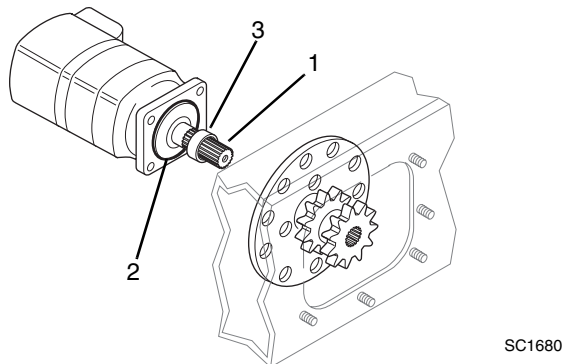

Figure 5-57 Drive Motor Installation
2. Coat the spline shaft (Fig. 5-57, 1) of the new travel motor with molybdenum disulfide anti-seize compound.
3. Follow manufacturer's instructions, apply a 1/8" bead of Loctite® Gasket Eliminator 518 Sealant around the mounting hub (Fig. 5-57, 2) on the flange of the replacement drive motor.
4. Place spacer (Fig. 5-57, 3) saved from Step 6 of travel motor removal onto the motor spline shaft.